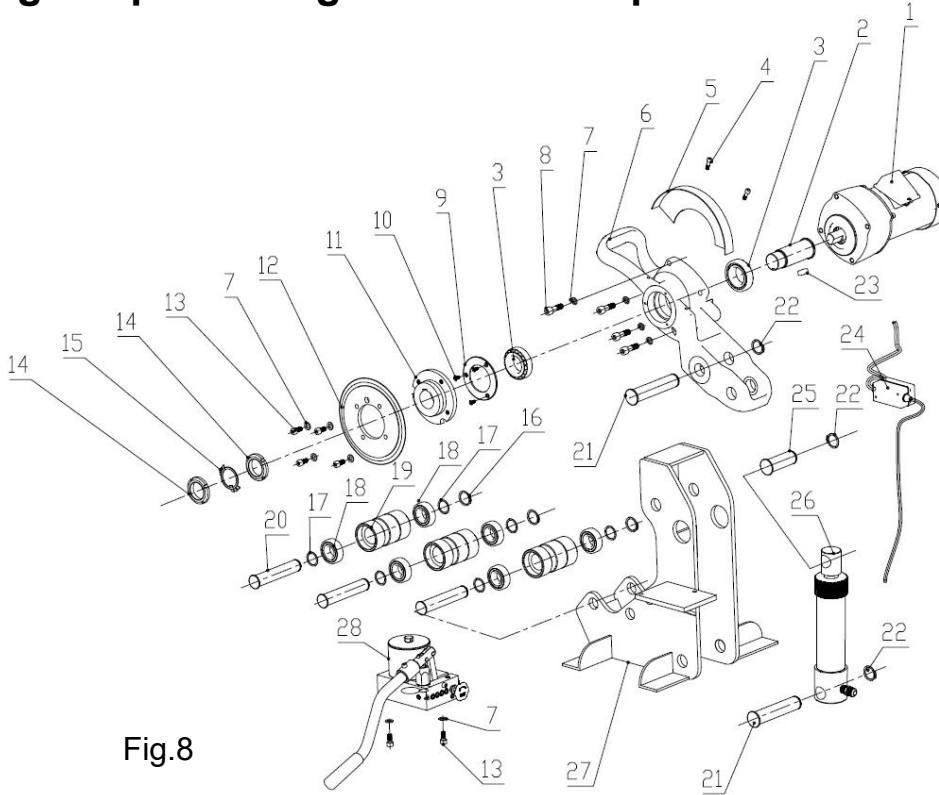

Fig.8
(1)、TWQ-V's Component and Parts Form(Fig.8)